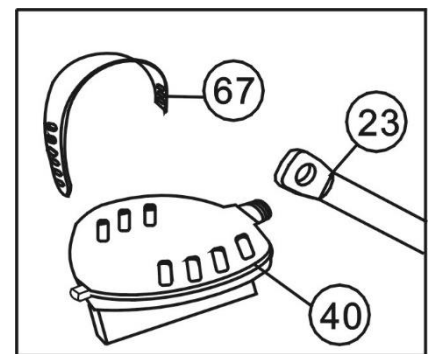

Figure 8
Tie the two Pedal strips (67) on the left & right Pedals (40), and then attach the left & right Pedals (40) to the Crank (23). (Refer figure 8)